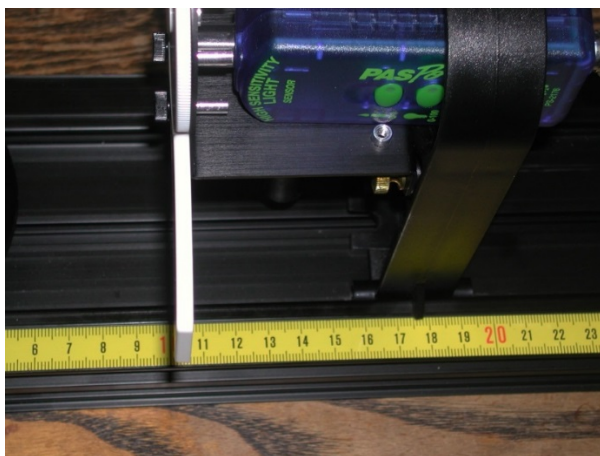

Figure 2: Positioning the Light Sensor
1. Set the Basic Optics Light Source so the point light source is at 0.0 cm. The center of the point light source is indicated by the edge of the notch in the bottom of the light source bracket (see arrow on the bottom of the bracket). Set the front of the Light Sensor mask 10 cm from the center of the point light source. Note that you must sight down the front of the Light Sensor mask to see where it lines up with the track measuring tape (see Figure 2). Alternately, you can use the position indicator foot on the holder, the leading edge of which is 7.5 cm behind the front of the sensor mask. In the photo, the leading edge of the foot is at 17.5 cm.